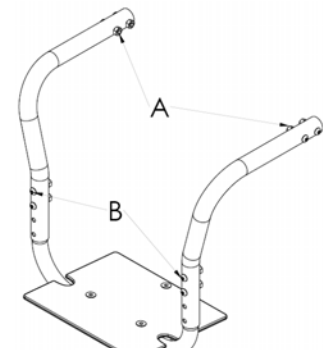

Fig. 1
- a. Insert tubes A as shown in Figure 1 into the seat rail tubes.
- a. Loosen fasteners referenced by B in Figure 1